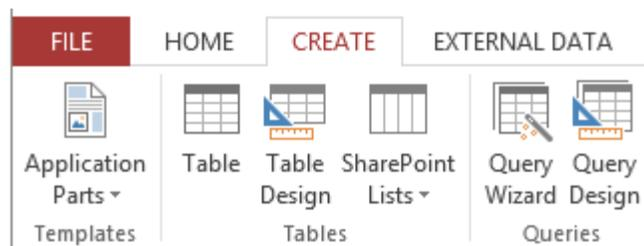

Figure 13: **Create** Tab Showing the **Table** Button
1. Add New Table: Click **Create** → **Table** (Figure 13).